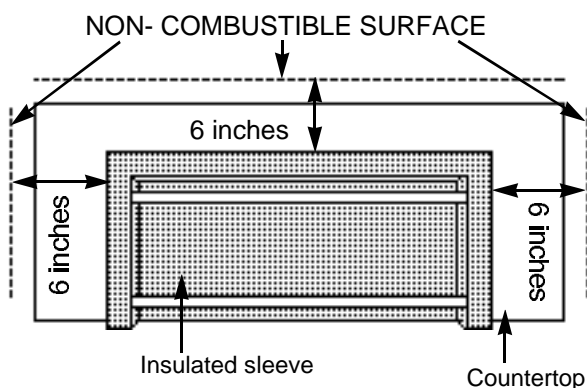

Figure 1
**Warning:** Clearance from the outside walls of the sides and back of the insulated sleeve must be a minimum of 6 inches from a non-combustible surface. Measure from the outside wall of the insulated surface to the non-combustible surface. Figure 1. Refer to "Install Gas Supply" on page 2 before starting installation.